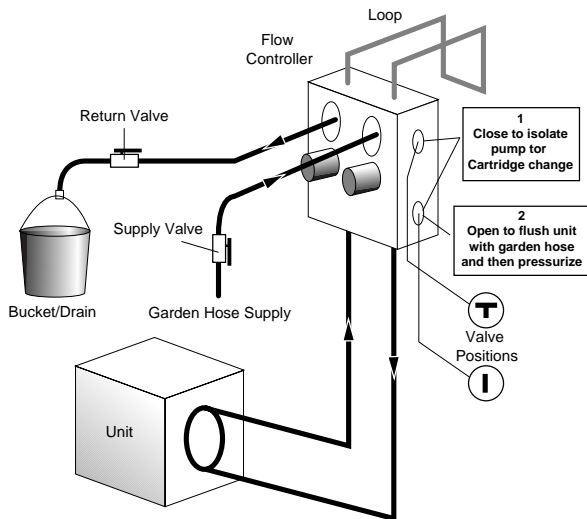

Figure 10 - Cartridge Replacement Procedure
First isolate the pump in question as in Figure 10. **Always disable power to the pumps** and remove pump power wiring if needed. Close valves as in Step 1 of Figure 10.
- Place garden hose supply and return on flush ports as shown in Figure 10 and open valves to flush through the unit portion of loop. When water flows clear, close return side to pressurize; finally, close the supply side valve. Close 3-way valves to operation position Figure 9E. The loop can also be reflushed, using the complete procedure outlined for installation.